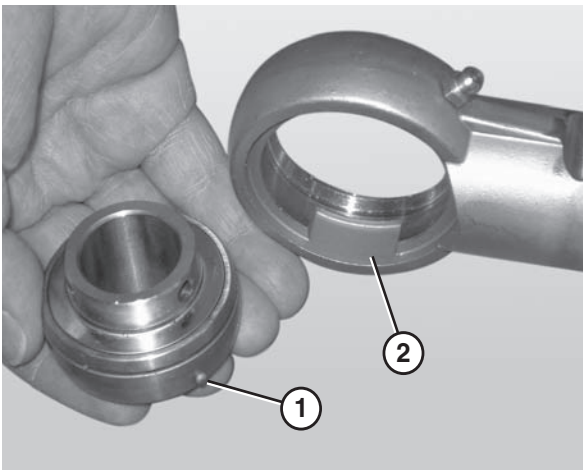

Figure 84
4. Remove the worn or damaged bearing (**Figure 84**).
When inserting the new bearing, make sure the anti-rotation notch (Figure 84, item 1) on the bearing lines up with the groove inside the housing (Figure 84, item 2).